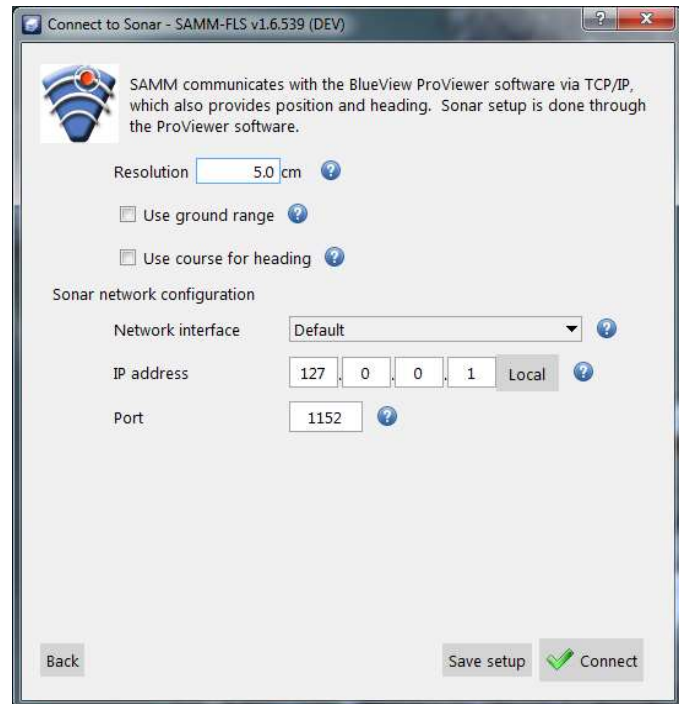

Figure 44. BlueView Interfacing
7. In the BlueView interface window (Figure 44), set processing parameters as necessary.